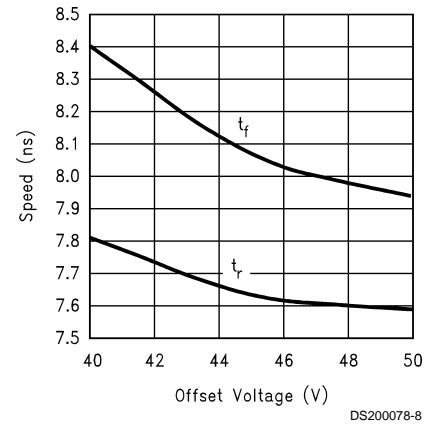

FIGURE 7. Speed vs Offset
*Figure 7* shows the variation in rise and fall times when the output offset of the device is varied from 40 to 50 VDC. The rise time shows a maximum variation relative to the center data point (45 VDC) less than 5%. The fall time shows a variation of less than 5% relative to the center data point.